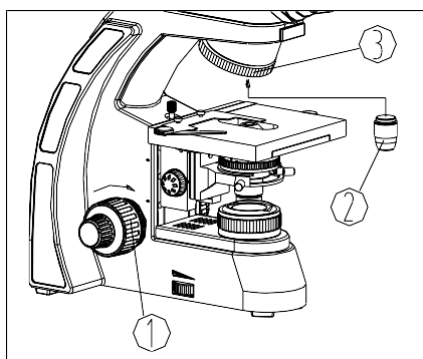

Fig.5
1. Rotate the coarse focusing knob① to lower the stage to a suitable position (see Fig. 5).